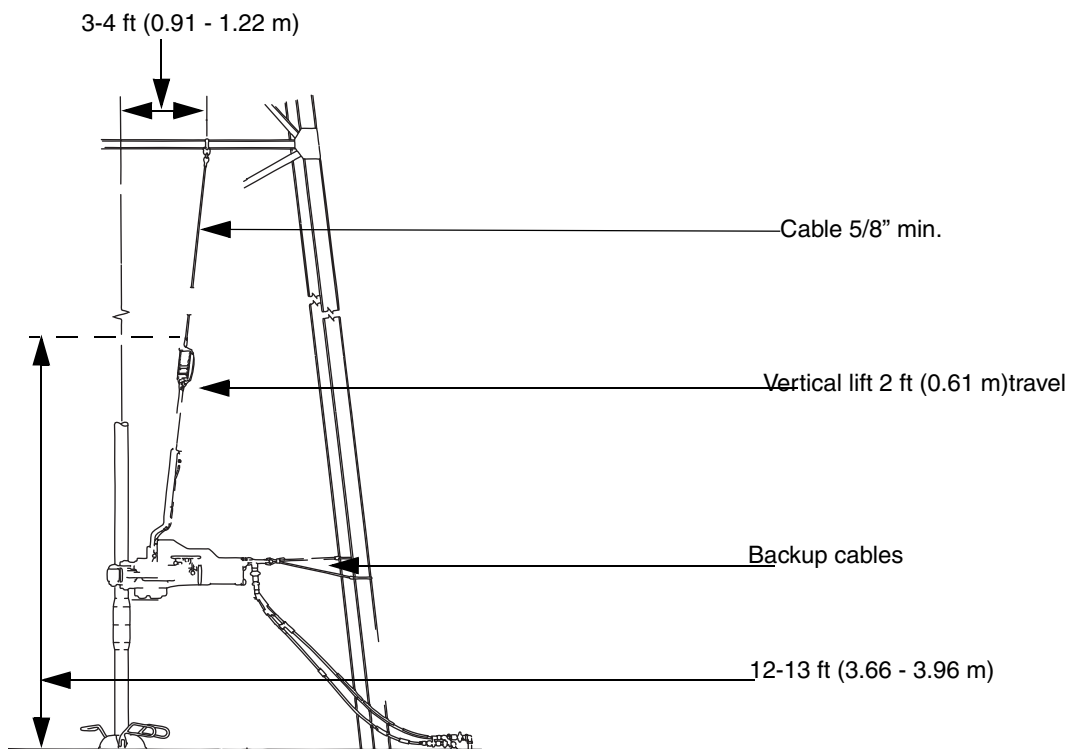

Fig 4.3 Fixed line method.
- b. Attach the cable at across member on the crown approximately 3 to 4 feet from the drill pipe centerline as shown, and position the SSW30 as indicated in figure 4.3
Operate vertical position control to raise or lower SSW30 to correct working level (figure 4.3: Vertical lift 2 ft / 0.61 m travel).
Attach two back-up cables to rear of the SSW30 to restrict movement to 1 foot (0.30 m) in either direction (figure 4.3).